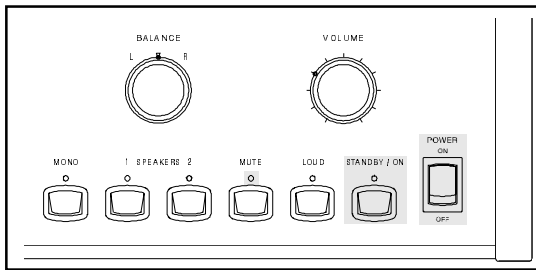

Figure 1
A. Carefully remove sufficient insulation from the loudspeaker cable ends to just fit within the binding post with no exposed wire accessible. Refer to figure 1.
Refer to figures 1 and 2.